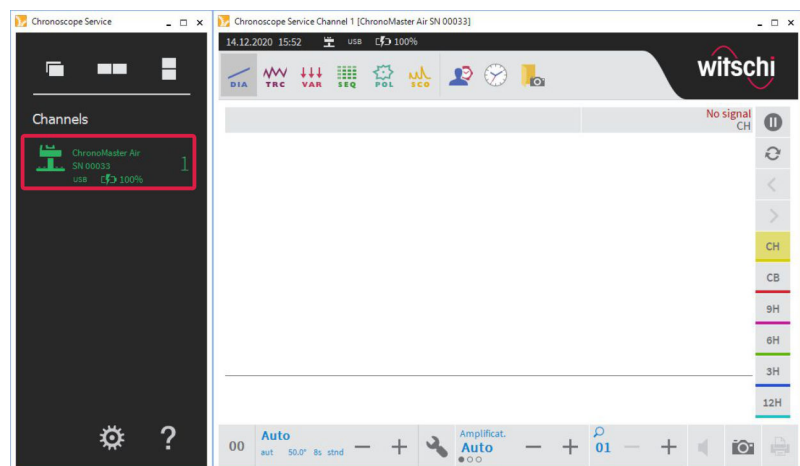

Fig. 7: Identification of the device by the display software
- The device is identified by the display software and executed there (Fig. 7).